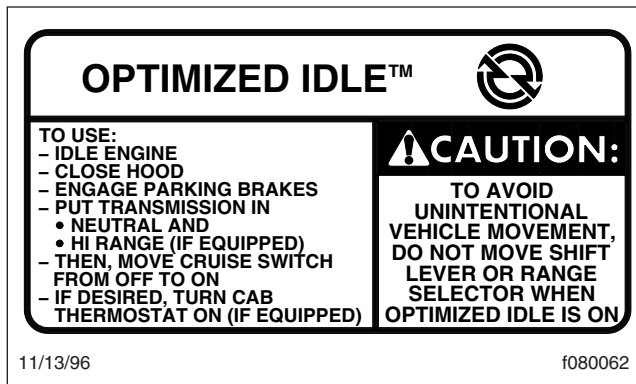
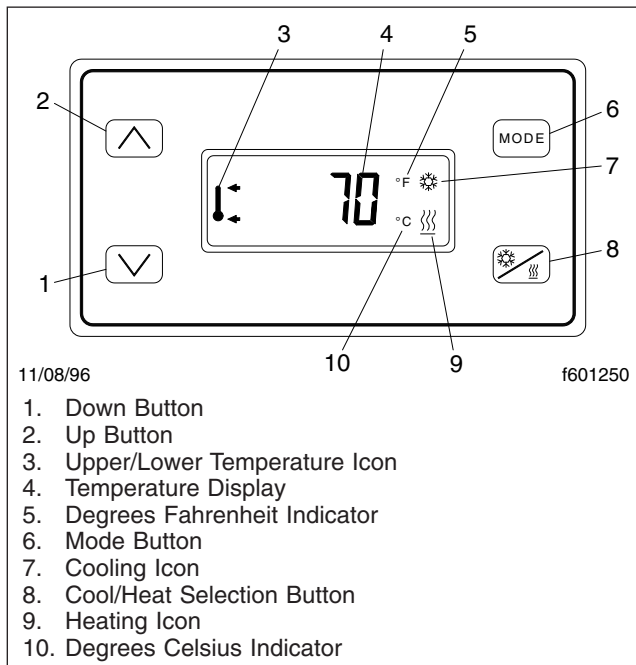

Fig. 10.6, Optimized Idle Dash Label
Fig. 10.7, Optimized Idle Thermostat
Vehicles equipped with Optimized Idle have a label on the dash, and a telltale lens in the dash message center. See Fig. 10.6 for the dash label detail. See Chapter 4 for the appropriate dash message center. If equipped with the thermostat mode, a thermostat is located in the sleeper, above the bunk. See Fig. 10.7.
- 2.2 Turn on the thermostat by touching any of the four buttons. See Fig. 10.7.